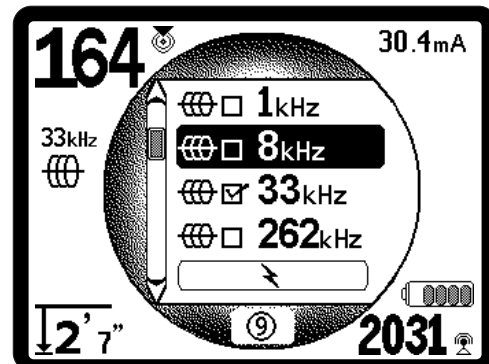

Figure 15: Highlighting a Desired Frequency (8 kHz)
2. Using the Up and Down Keys, highlight the frequency desired (Figure 15). In this example, the operator is activating the 8 kHz frequency.